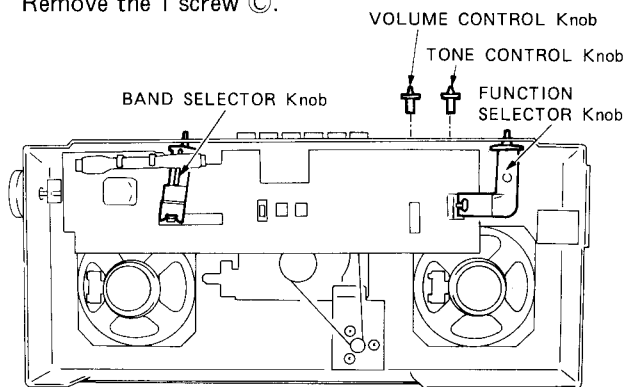

Fig. 3
- (1) Remove the VOLUME and TONE CONTROL knobs. (Fig. 3)
- (2) Remove the FUNCTION and BAND SELECTOR knobs. (Fig. 3)